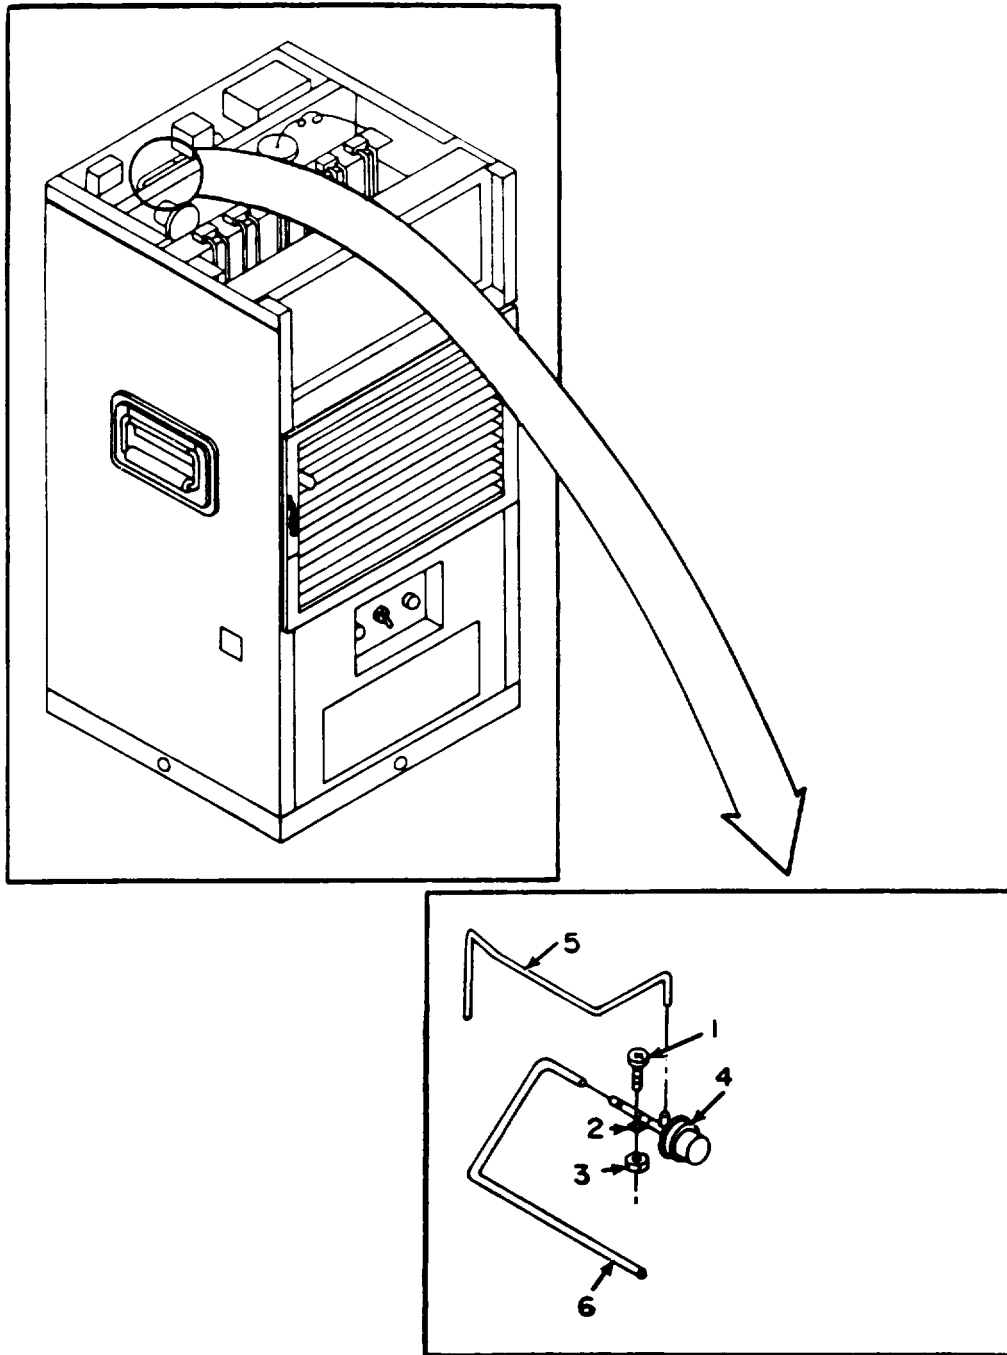

Figure 5-20. Pressure Regulator Valve and Attaching Hardware.
- a. INSPECTION. See Figure 5-20.
7. Check for missing hardware such as screw, clamp, or nut. Refer to Figure 5-20.